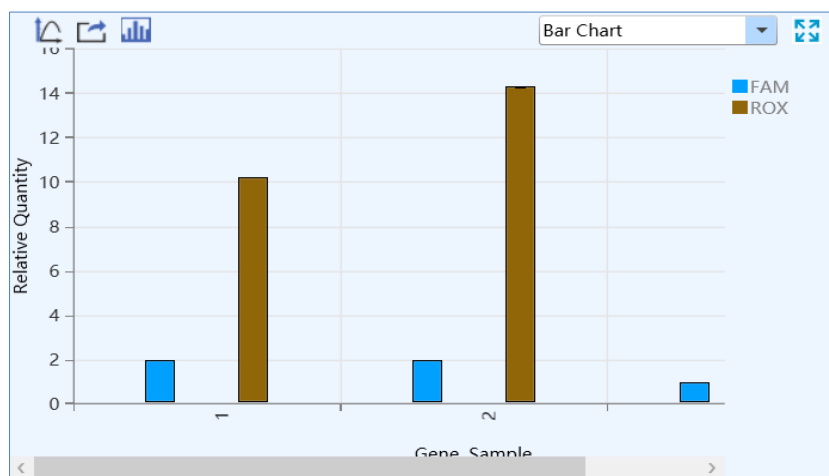

Figure D-11.1. Rel Quant Analysis Interface - Bar Chart Function Module
I. Bar Chart: display the relative ratio relationship between target gene & sample and reference gene & sample, as shown in figure D-11.1.